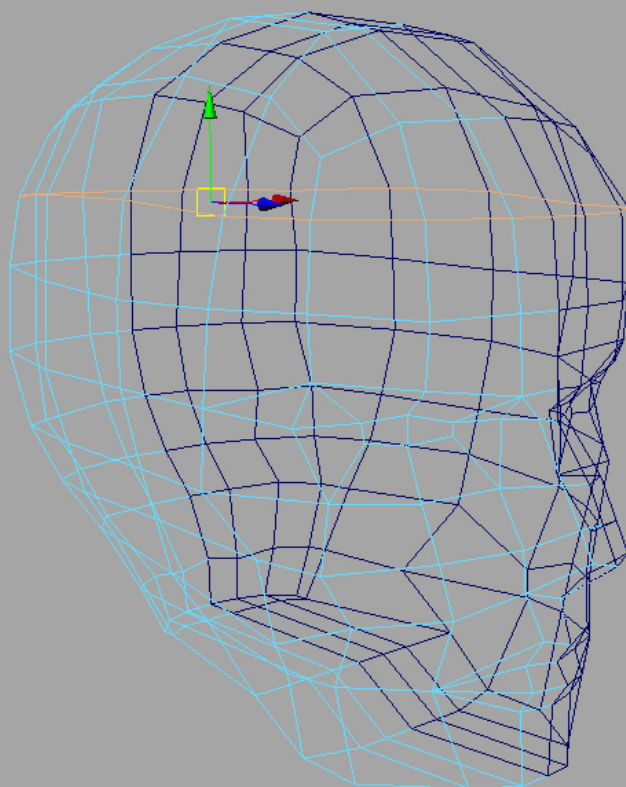

Fig 12
12. Lets work on the forehead some. Select the highlighted edge and pull it up slightly. (Fig 12, 13)